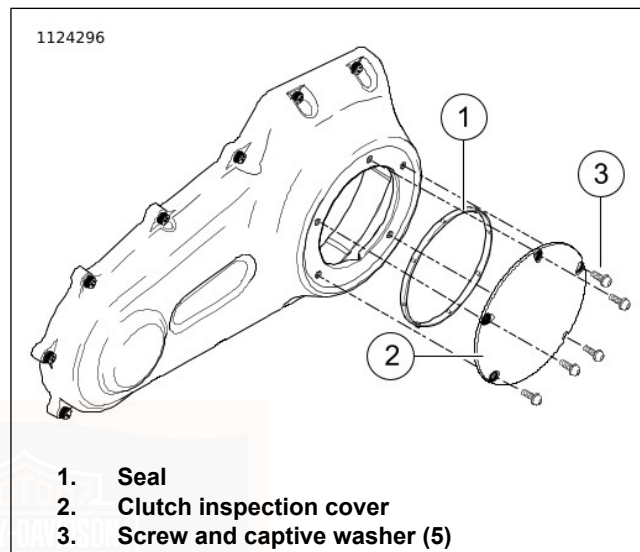
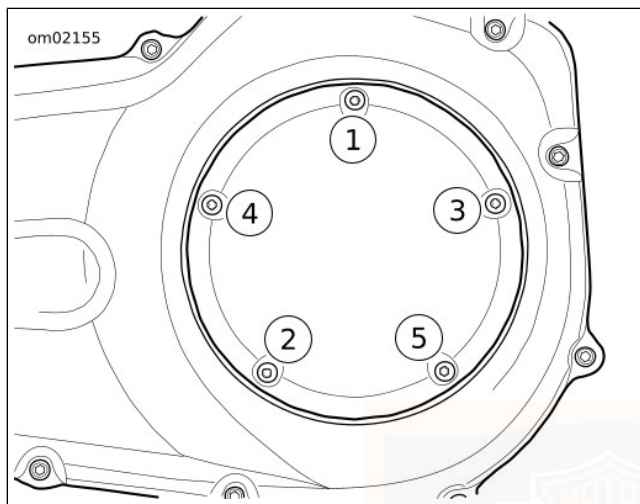

Figure 71. Clutch Cover (Typical)
Figure 72. Clutch Cover Tightening Sequence
6. See Figure 71. Remove screws (3) and clutch inspection cover (2).
7. Remove seal (1). Wipe oil from groove in chaincase cover and mounting surface.
- b. See Figure 71. Position **new** seal (1) in groove in clutch inspection cover (2). Press each of the nubs on seal into the groove.
- c. Secure clutch inspection cover (2) with screws with captive washers (3).
- d. See Figure 72. Tighten in sequence shown to 9.5–12.2 N·m (84–108 **in-lbs**).